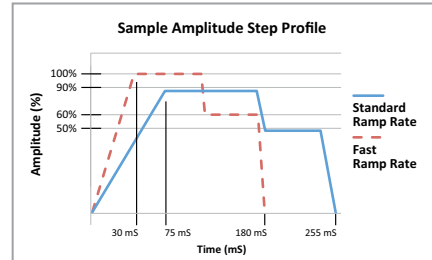

Figure 1
- Digital Amplitude Control** – The DCX A and F offer digital amplitude control through the LCD user interface, the Branson Global User Interface, or from a user-provided external source. The amplitude rate and level can be adjusted instantaneously during a weld to increase weld energy, decrease the weld time, and increase product throughput (Fig. 1).